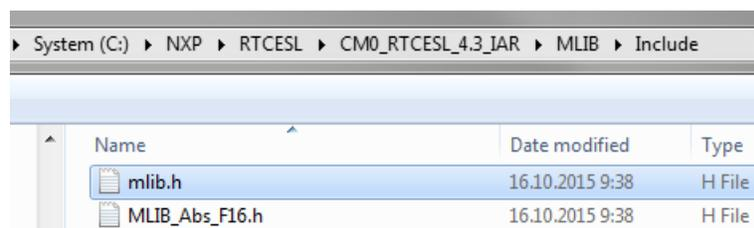

Figure 1-44. Add Files dialog
5. Navigate into the library installation folder C:\NXP\RTCESL\CM0_RTCESL_4.5_IAR\MLIB\Include, and select the *mlib.h* file. (If the file does not appear, set the file-type filter to Source Files.) Click Open. See Figure 1-44.